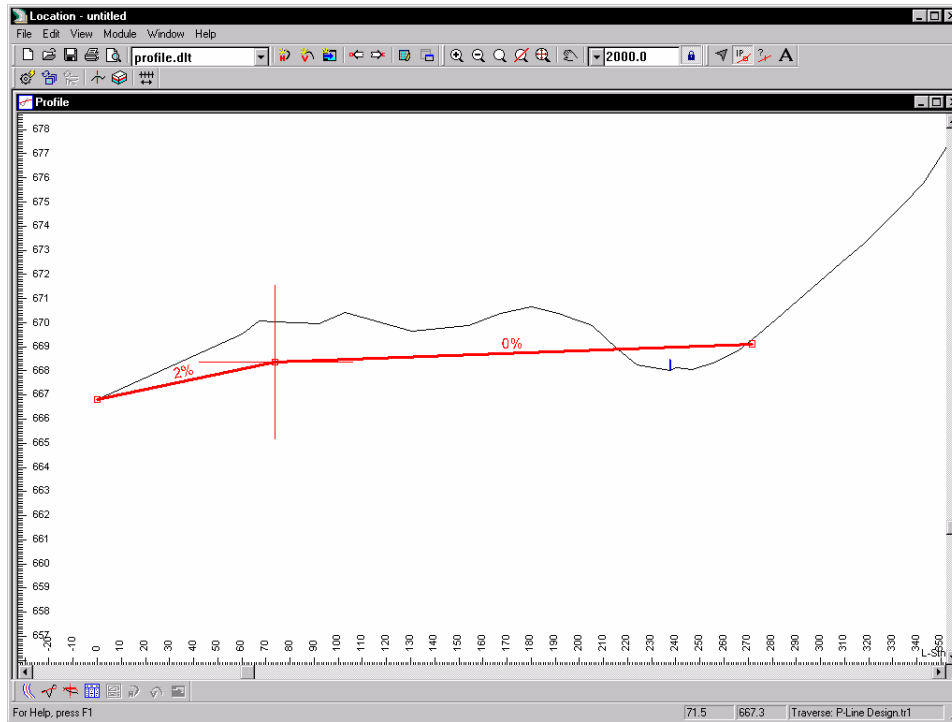

Figure 3.2: Editing 1st Design Point
12. Move the captured point to the position shown in the Figure 3.2. Left click again.
17. Left click roughly where the point was before you deleted it (as shown in Figure 3.2). This inserts a new VIP *between* existing points.